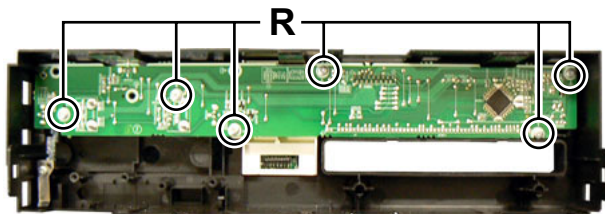

Fig.18
3.1.10 Removing the Front board (See Fig.18)